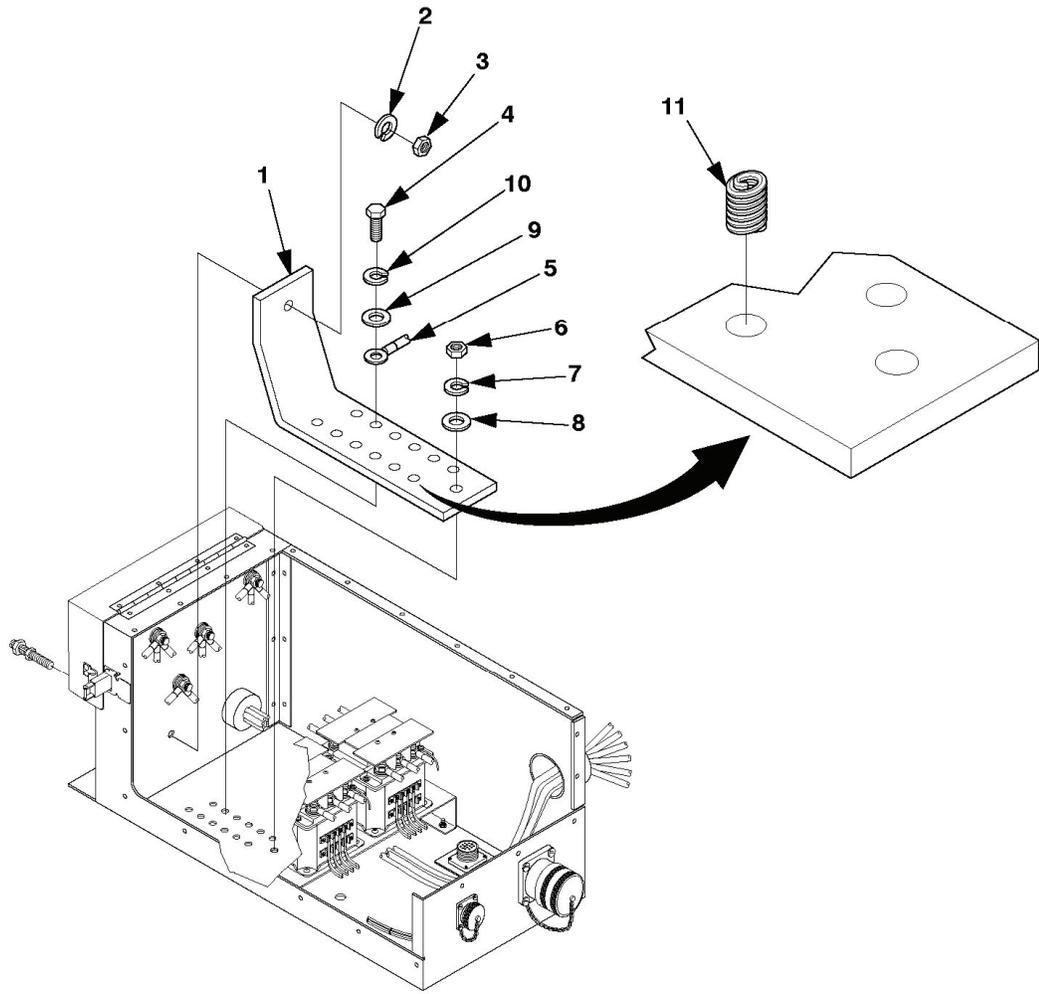

Figure 5-13. Bus Bar Maintenance (A Model).
2. Carefully position switch box cover (4) in front of switch box assembly.
3. Disconnect P3 (8) from J4 (11) and set switch box cover (4) out of the way.
4. Remove cap screws (4, figure 5-13), lock washers (10), flat washers (9), and electrical leads (5) from bus bar (1). Discard lock washers (10).
5. Remove nut (3) and lock washer (2).
6. Remove nut (6), lock washer (7), and flat washer (8). Discard lock washer (7).
7. Remove bus bar (1).
1. Position bus bar (1, figure 5-13) in place.
2. Install flat washer (8), new lock washer (7), and nut (6).
3. Install lock washer (2) and nut (3).
4. Install electrical leads (5), flat washers (9), new lock washers (10), and cap screws (4).